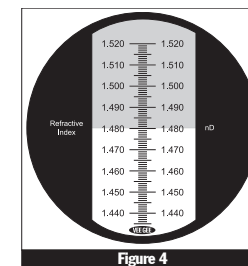
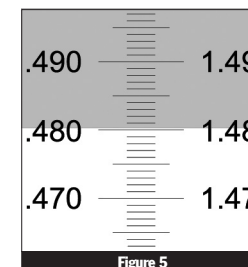

Figure 4
Figure 5
- 4 When the refractometer scale is viewed through the eyepiece, the upper field of view will be seen as blue and the lower field will be seen as white (Figure 4). The reading is taken at the point where the boundary line of the blue and white fields crosses the scale (Figure 5). The value is the Refractive Index (nD) reading of the sample.